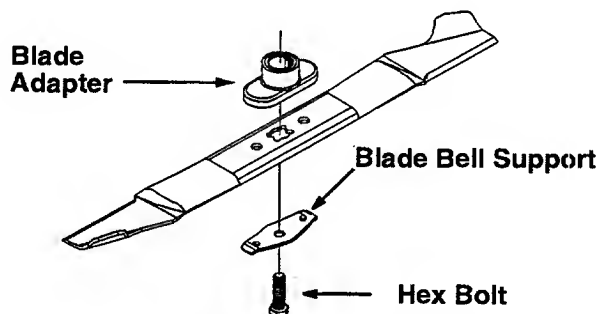

Figure 12
- Remove the bolt and blade bell support which hold the blade and adapter to the engine crankshaft. See Figure 12. Remove the blade and the adapter from the crankshaft.